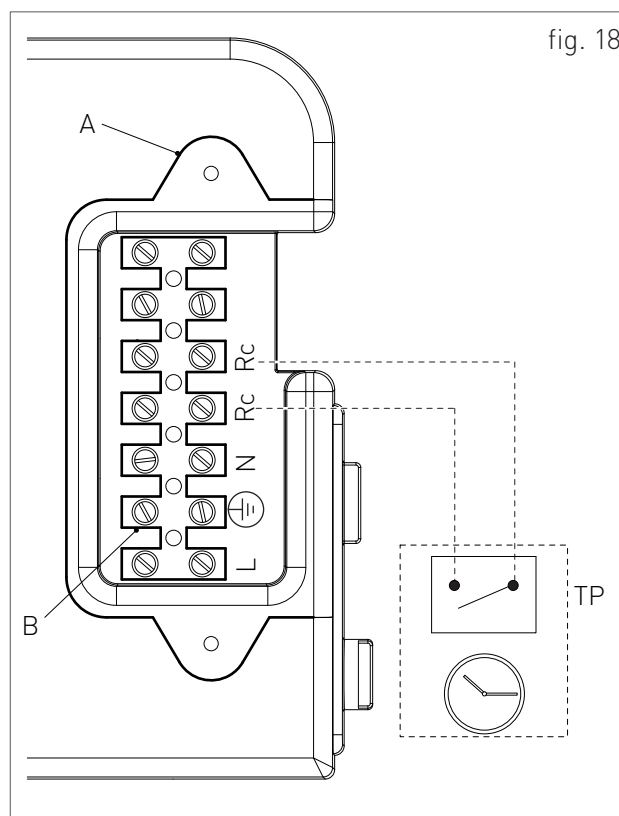

fig. 18
- > unscrew the screws and remove plate "A" (see fig. 18).
- > After removing the plate, connect the electrical cables to terminal "B" (see fig. 18);